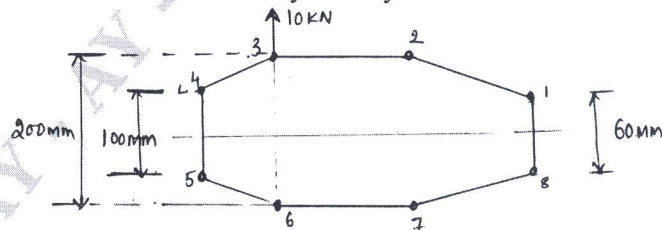

Fig.Q.7
- 7 The thin walled single cell beam shown in Fig.Q.7 has been idealized into a combination of direct stress carrying booms and shear stress only carrying walls, if the section supports a vertical shear load of 10kN acting in a vertical plane through boom 3 and 6. Calculate the distribution of shear flow around the section. Boom Areas: $B_1 = B_8 = 200\text{mm}^2$, $B_2 = B_7 = 250\text{mm}^2$, $B_3 = B_6 = 400\text{mm}^2$, $B_4 = B_5 = 100\text{mm}^2$. The centroid of the direct stress carrying are lies on the horizontal axis of symmetry. (16 Marks)